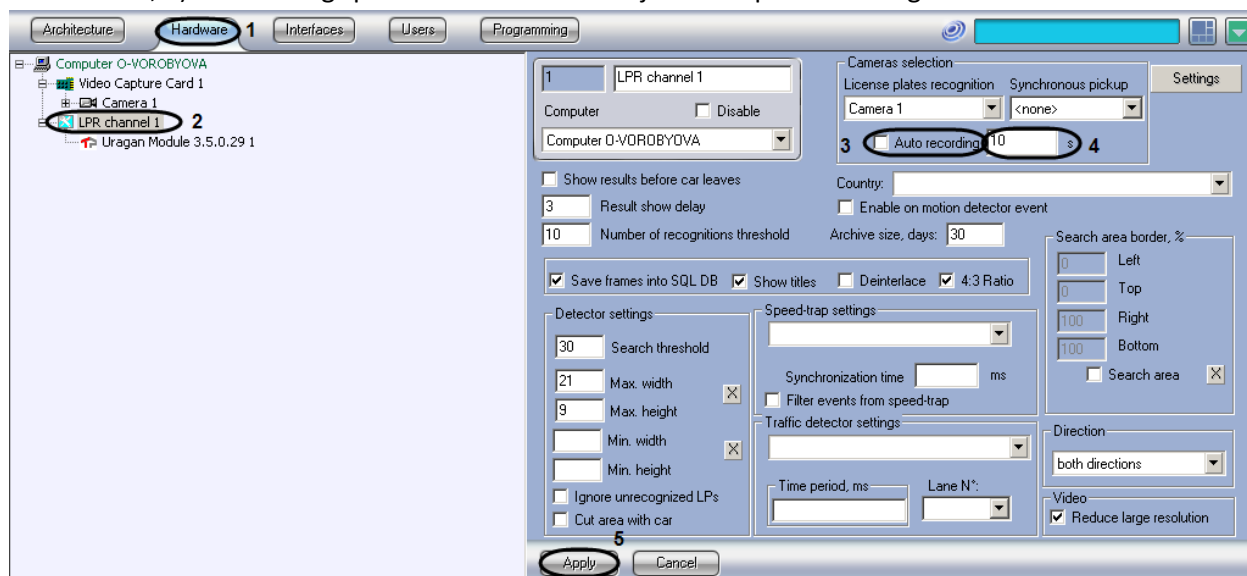

Fig. 7.2—8 Setting up the parameters of automatic video recording
2. Select the LPR channel, corresponding to the activated program module, in the objects tree on the Hardware tab (see. «Program module activation, used for Plates identification», see Fig. 7.2—8, 2). The settings panel of the selected object will open on the right side of the window.